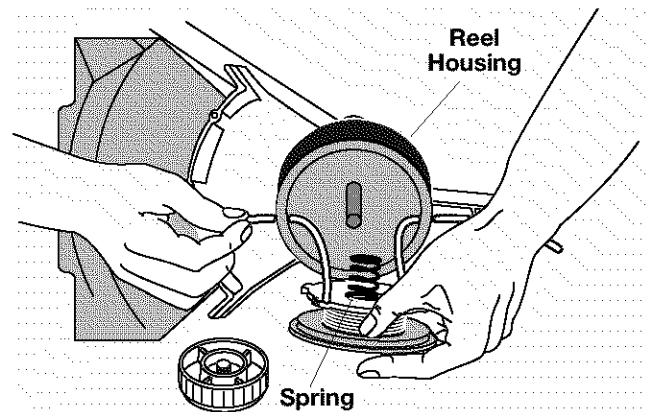

Fig. 34
1. Insert one line end through each of the eyelets in the reel housing, and insert the reel and spring back into the reel housing (Fig. 34).
6. Insert the ends of the line through the eyelets in the reel housing (Fig. 34).